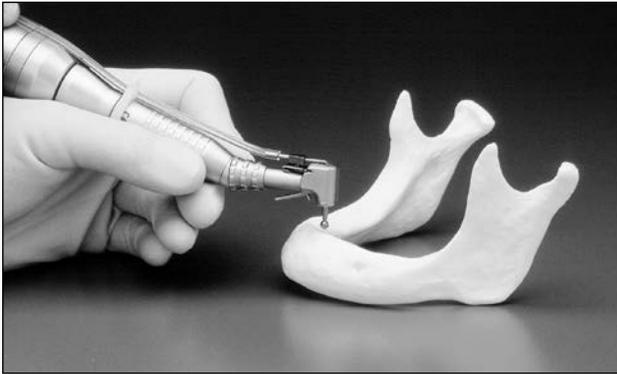

Figure 3. Round Bur creates dimple on the alveolar crest to accommodate tip of Pilot Drill.
- A. Use copious external irrigation with the Round (Rosette) Bur when creating a 1-1.5mm dimple in the dense ridge crest (**Fig. 3**).